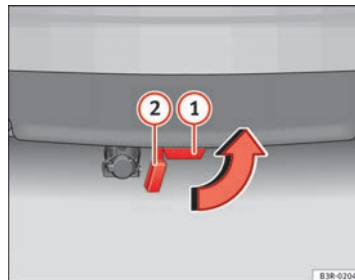

Fig. 160 Rear bumper: fitting the cover piece
- Pull the ball joint down out of the mounting fixture **(1)** ⇒ fig. 160. The cover piece will cover the mounting fixture automatically **(2)**.